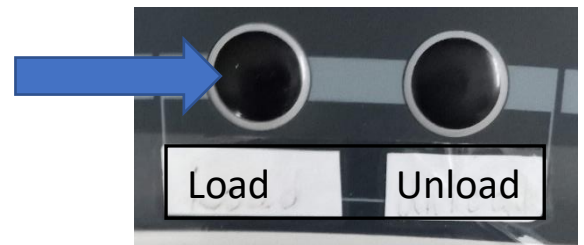

Figure 11
- Push **load** button on SEM control panel and wait for the proceed light to become green (**Figure 11**)